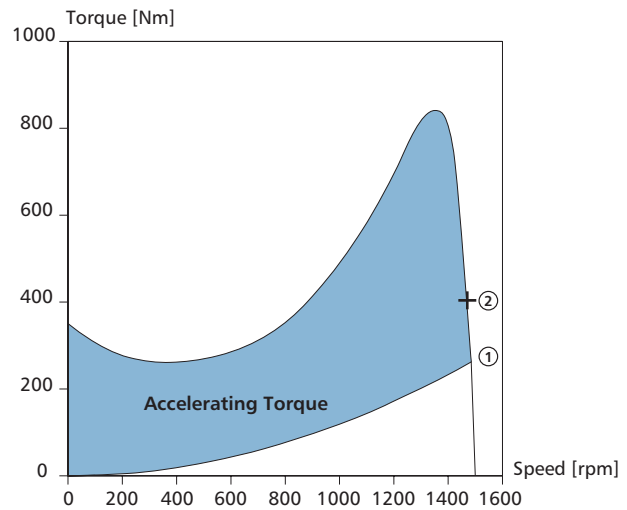

Fig 3.1 Accelerating torque during start up.
The time it takes for the pump to accelerate (speed up) depends on the polar moment of inertia for the rotating parts and the accelerating torque. The accelerating torque is defined as the difference between available motor torque and load torque, see fig 3.1. The time it takes to reach nominal speed is depending on the size of the motor, but normal acceleration times are 0.1 s for small motors and up to 1 s or more for larger ones. The time it takes until the system has reached the final duty point is considerably longer. This time can be from a couple of seconds up to a minute or longer for very large systems.
nominal performance curve when the shaft power is low. This implies that the load torque is low. The duty point will then move down along the pump curve until the system has reached steady state conditions, i.e. the final duty point at the intersection between the pump curve and the system curve (2). The difference between the start-up pressure head curve and the system curve is the acceleration pressure (head). The two points, full speed duty point (1) and final duty point (2), can also be found in the torque diagram (fig 3.1) with the same denotation. The start-up time for the system is proportional to the volume of the system.